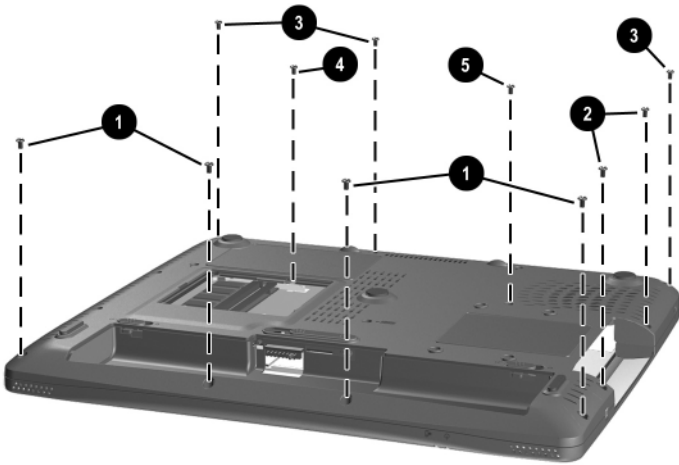

Figure 5-22. Removing the Top Cover Screws
3. Remove the following TM2.5 × 7.0 screws (Figure 5-22):
- ❑ Four screws along the notebook front edge ❶
- ❑ Two screws on each side of the hard drive bay ❷
- ❑ Three screws on the rear edge of the notebook ❸
- ❑ One screw in the memory expansion compartment ❹
- ❑ One screw near the fan vent ❺